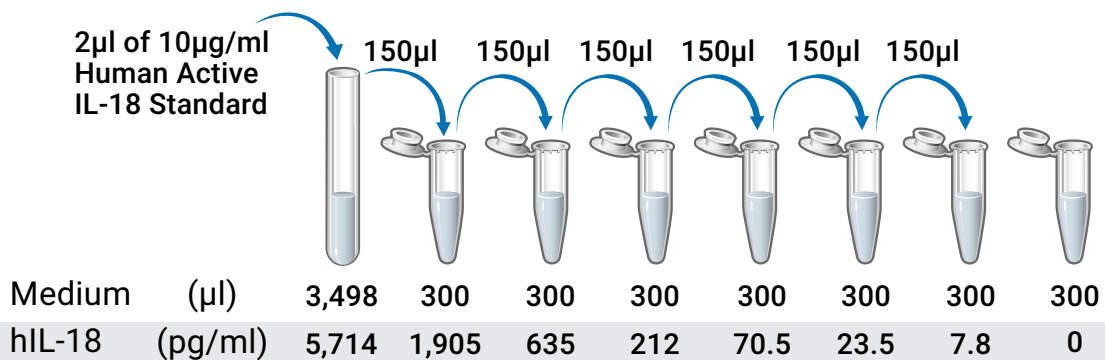

Figure 3. Human IL-18 dilution series.
- Prepare an initial concentration of 5,714pg/ml human IL-18 by diluting Human Active IL-18 Standard (10µg/ml) 1:1,750 in cell culture medium (typically HEPES-containing RPMI 1640 + 10% heat-inactivated FBS for human cells). For example, prepare 3,500µl of 5,714pg/ml human IL-18 by adding 2µl of the Human IL-18 Standard stock to 3,498µl of culture medium (see Figure 3).
3. Prepare an initial concentration of 5,714pg/ml human IL-18 by diluting Human Active IL-18 Standard (10µg/ml) 1:1,750 in cell culture medium (typically HEPES-containing RPMI 1640 + 10% heat-inactivated FBS for human cells). For example, prepare 3,500µl of 5,714pg/ml human IL-18 by adding 2µl of the Human IL-18 Standard stock to 3,498µl of culture medium (see Figure 3).